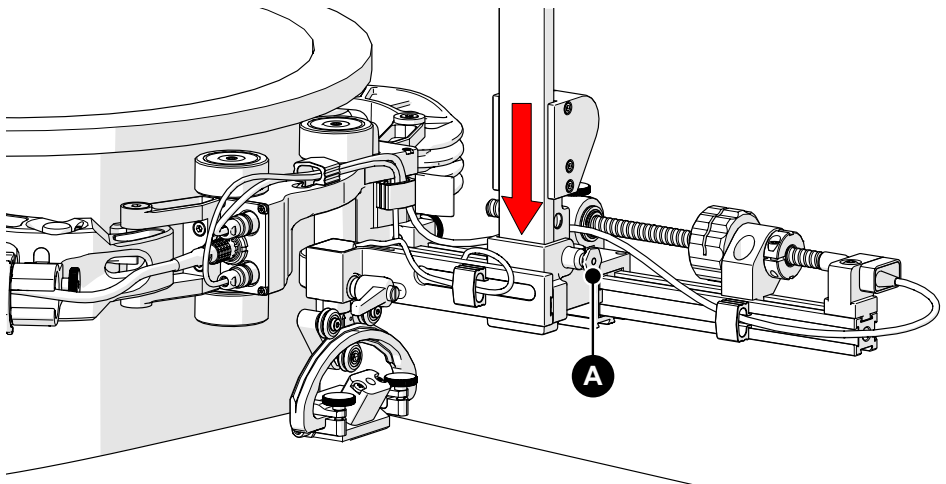

Fig. 95 - Lower probe holder to scan surface
10. Pull the probe holder latch pin (Fig. 95-A) to release the probe holder from the locked position (see *Latch Pin* on page 25 for more information).